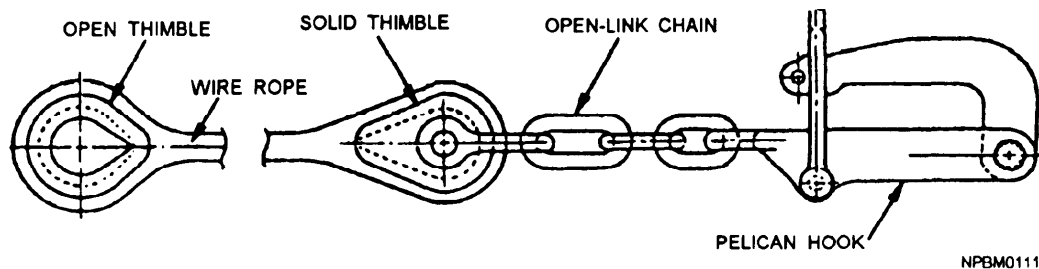

Figure 4-12.—Clear hawse pendant.
- **CLEAR HAWSE PENDANTS.** A wire rope pendant, 5 to 15 fathoms long, with a thimble at one end and a pelican hook attached to a length of open-link chain fitted in a thimble at the other end. It is used in clearing a hawse fouled by the anchor chain. (See fig. 4-12.)